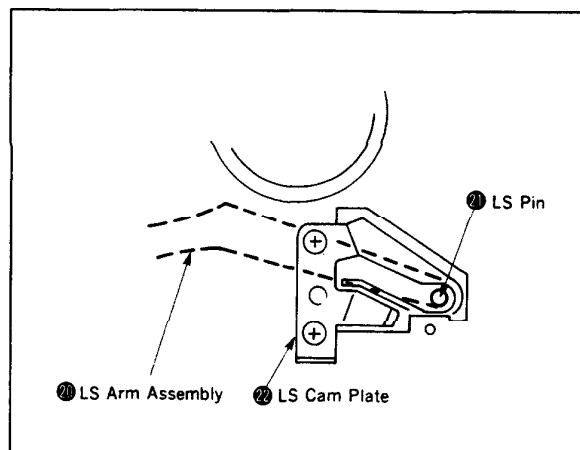

Fig. 18
Then, align the shafts ⑨ of the mechanical chassis With the four long joints of the LS chassis assembly ⑦, and put the LS pin ① of the LS arm assembly ② in the groove of the LS cam plate ③. (Fig.18)